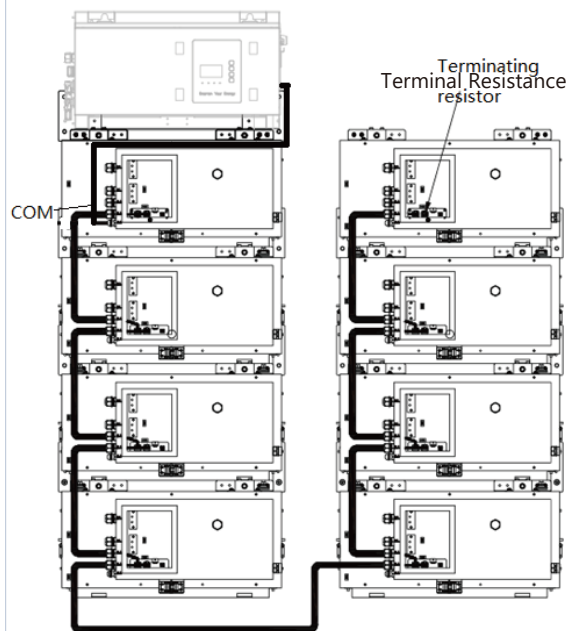

Figure 25 Connection of Communication Cables on Battery Side
Step 7 Please connect the communication cables as referred in Figure 25